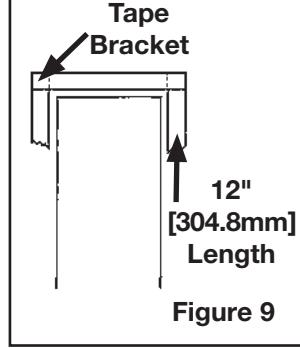
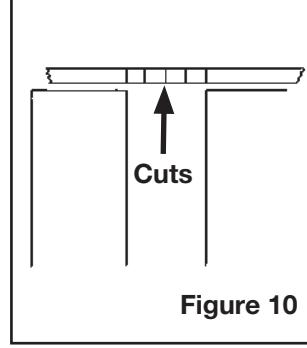

Figure 9
Figure 10
5. To prevent long sections of tape lifting where traffic crosses the tape lines, either bracket (**Figure 9**) or cut width-wise every 4 to 6 inches [100 to 150mm] (**Figure 10**).
**Note:** If damage to the tape should occur, the cutting technique allows for the easy removal and repair of damaged sections - (**Figure 10**).